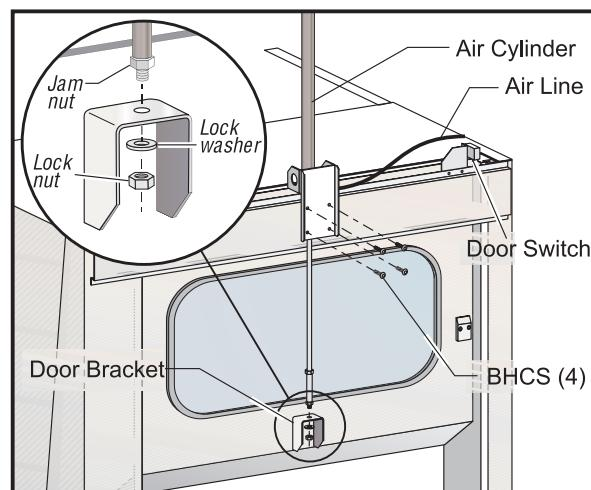

Figure 2.3 Air cylinder installation.
3. Remove the lock nut and washer from the end of the air cylinder rod, but leave the jam nut in place. Connect the automatic door air cylinder and bracket to the machine with four 1/4"-20 BHCS, as shown in Figure 2.3.